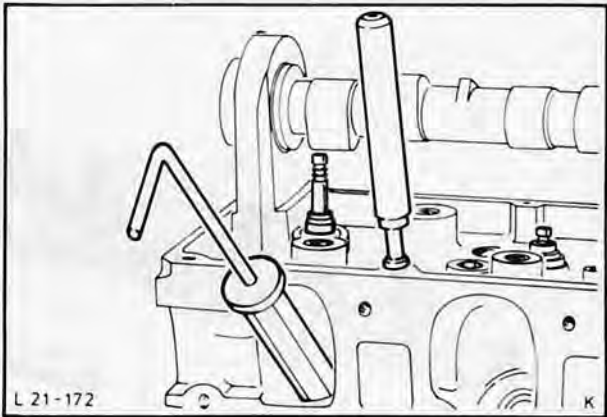

Fig. 189. Fit valve stem seal, using Special Tool 21-007
- Cover valve splines with adhesive foil. Fit new lubricated valve stem seal using Special Tool 21-007, Fig. 189, and remove adhesive foil from valve stem. Position valve spring and valve spring retainer, press down using Special Tool 21-005-A and fit collets. Release pressure on spring and remove Special Tool.